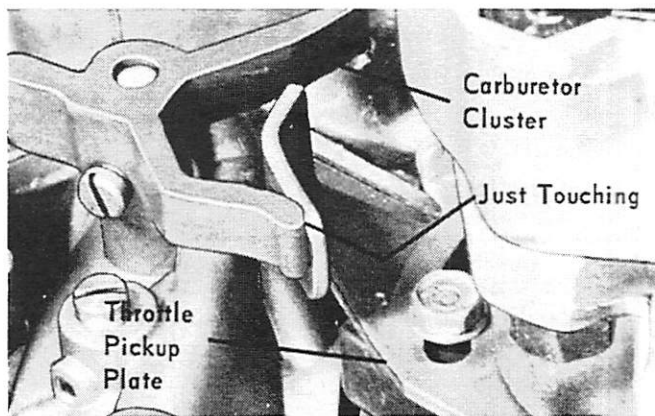

Figure 4. First Throttle Pickup Tab Adjustment
12. Loosen throttle pickup plate screws. (Figure 4)
tab (without nylon sleeve) just touches carburetor cluster. (Figure 4)